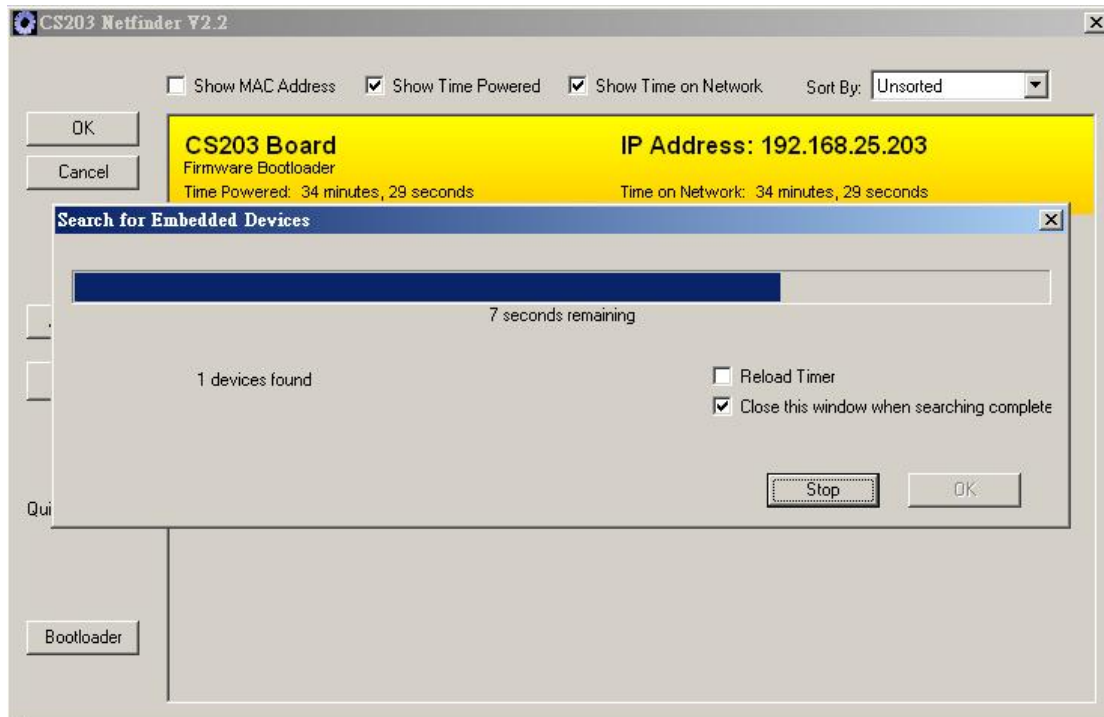

Fig. 2. Searching CS203 Board
11. Available CS203 board will be listed as shown in Fig. 2.
2. Available CS203 board will be listed as shown in Fig. 2.